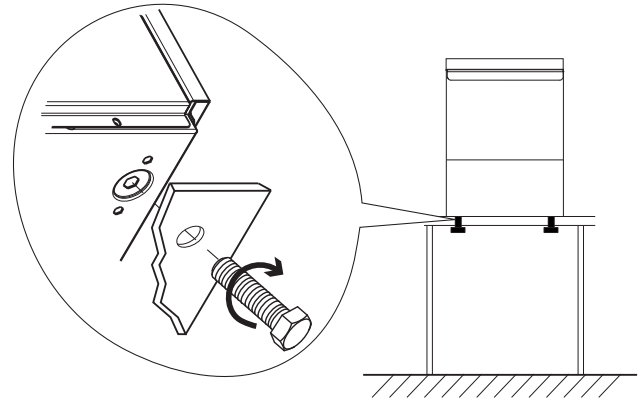

Figure 8
- Place the dishwasher on the support, matching the holes just made with the seats of the feet in the bottom of the machine (Figure 8).